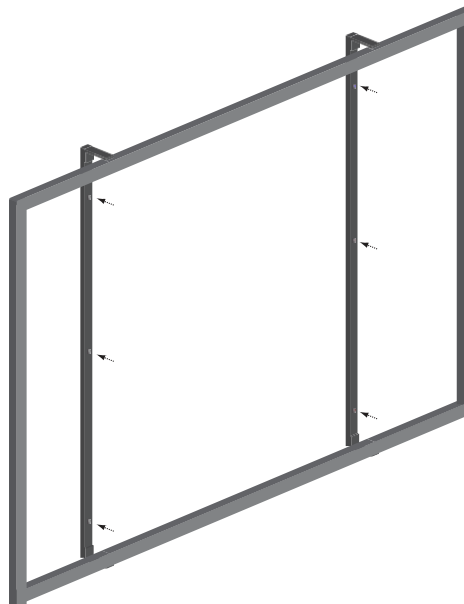

Figure 7: Positioning the Frame and Wall Boards to the Wall
4. Without the screen material attached, position the frame and boards on the wall (see Figure 7).